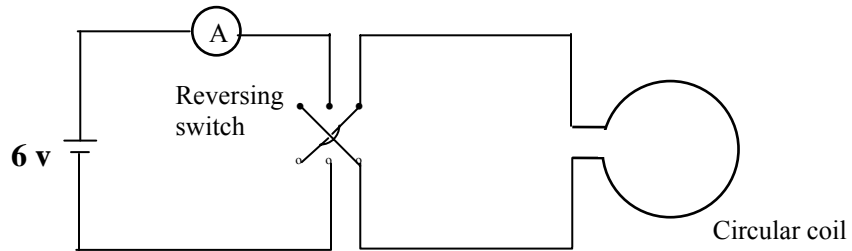

Figure 2
2. Set up the circuit shown in figure 2 and carefully increases the voltage on the power supply until the current through the coil causes a deflection of approximately 35° . Record the value of the current. Read the deflection angle, θ_1 , as closely as possible, then throw the reversing switch to reverse the direction of the current and carefully measure the new angle, θ_2 . By measuring the deflection for both current directions the error introduced by inexact alignment of the coil with the earth's magnetic field is reduced.